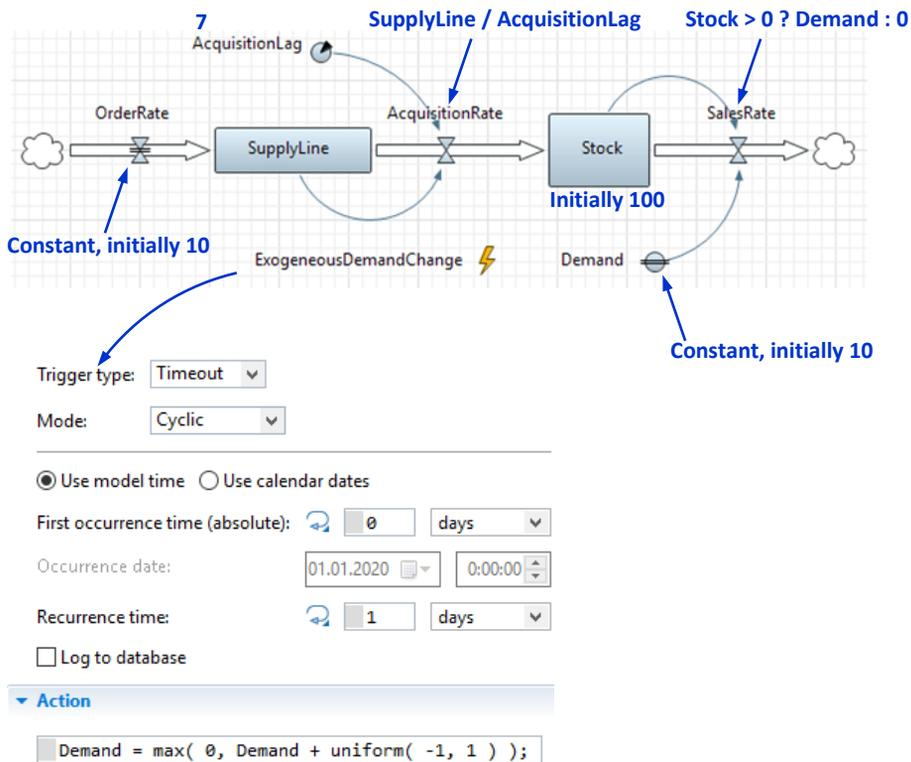

Figure 5.38 The stock management model without the controlling feedback
2. Create the stock and flow diagram, as shown in Figure 5.38.